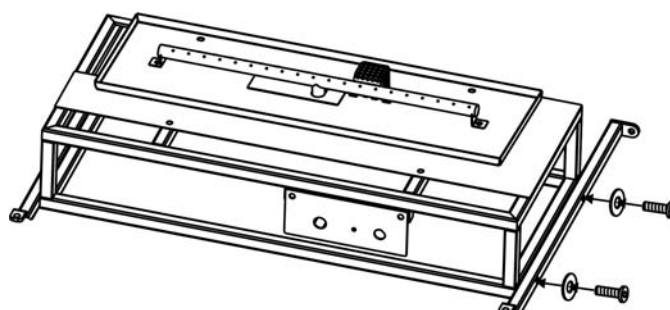

Figure 8
8. Attach the two support bars to the firepan/burner assembly by using four 1/4"x30 mm bolts and Ø6.5X1.0mm washers as shown in Figure 8. Hand tighten only.